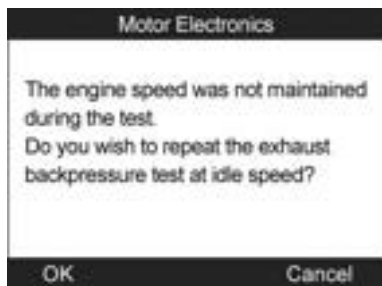

Figure 11.41
- If the engine is not running at idle speed, the tool will display a warning message (Figure 11.41). Select **OK** to repeat the test or select **Cancel** to exit.